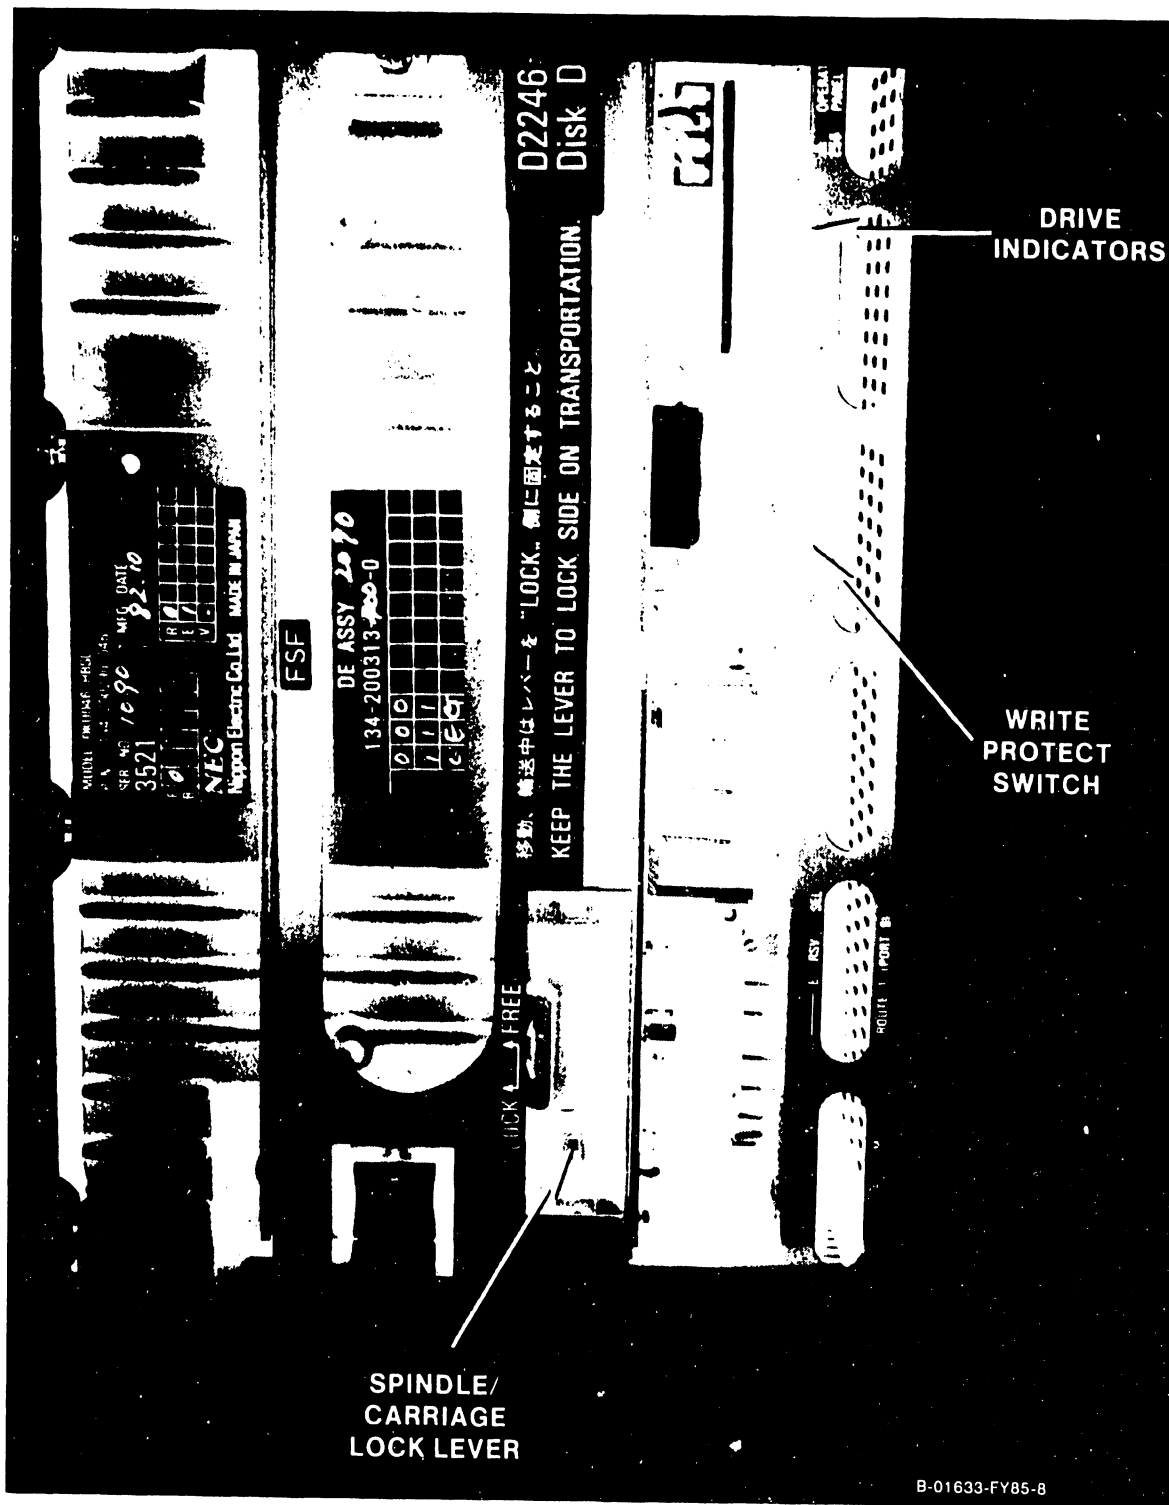

Figure 5-33. 76 Megabyte Disk Drive (Rear View)
5. Lock the spindle and carriage into their shipping position by moving the red Spindle/Carriage Lock Lever on the rear of the drive (figure 5-33) to the right, push it down as far as it will go, and then move it to the left into the Lock position.
2. Unlock the spindle and carriage from their shipping position by moving the red Spindle/Carriage Lock Lever on the front of the drive (figure 5-33) to the right, push it up as far as it will go, and then move it to the left into the Free position.